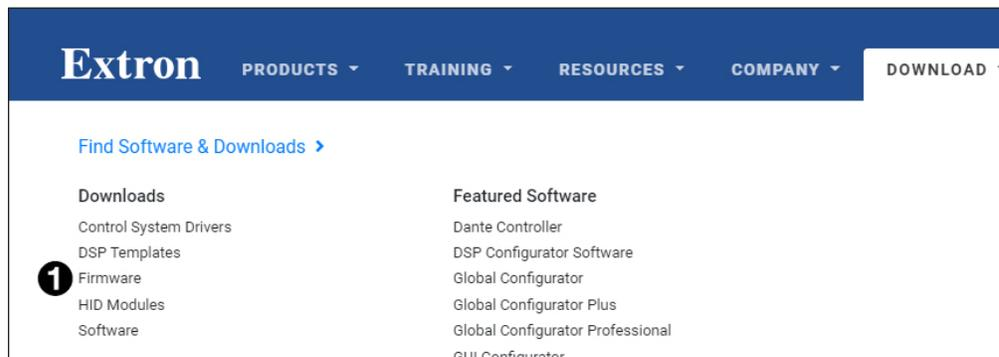

Figure 37. Downloading Firmware from the Extron Website
1. On the Extron website, www.extron.com, go to the **Download** tab and click **Firmware** (see figure 37, ①).